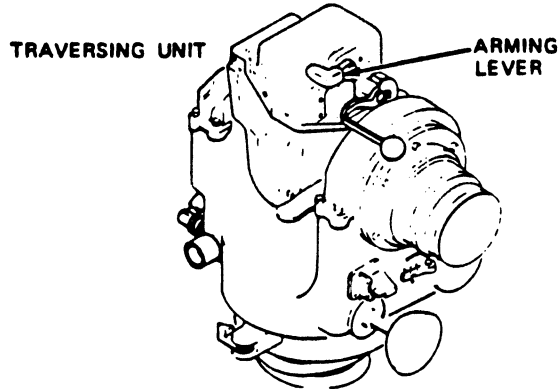

Fig 4-51. Arming lever.
Step 1. Continue tracking the target, lower then raise the arming lever (fig 4-51), and attempt to fire the missile again.